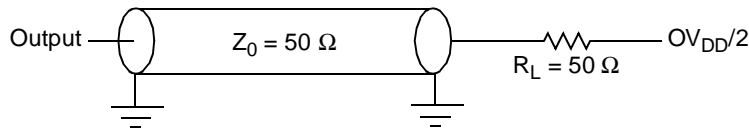

Figure 29. AC Test Load for the JTAG Interface
1. All outputs are measured from the midpoint voltage of the falling/rising edge of t_{TCLK} to the midpoint of the signal in question. The output timings are measured at the pins. All output timings assume a purely resistive 50-Ω load (see Figure 29). Time-of-flight delays must be added for trace lengths, vias, and connectors in the system.
2. The symbols used for timing specifications follow the pattern of $t_{(first\ two\ letters\ of\ functional\ block)(signal)(state)(reference)(state)}$ for inputs and $t_{(first\ two\ letters\ of\ functional\ block)(reference)(state)(signal)(state)}$ for outputs. For example, $t_{JTDV\overline{K}H}$ symbolizes JTAG device timing (JT) with respect to the time data input signals (D) reaching the valid state (V) relative to the t_{JTG} clock reference (K) going to the high (H) state or setup time. Also, $t_{JTD\overline{X}KH}$ symbolizes JTAG timing (JT) with respect to the time data input signals (D) went invalid (X) relative to the t_{JTG} clock reference (K) going to the high (H) state. Note that, in general, the clock reference symbol representation is based on three letters representing the clock of a particular functional. For rise and fall times, the latter convention is used with the appropriate letter: R (rise) or F (fall).
Figure 29 provides the AC test load for TDO and the boundary-scan outputs.
Figure 29 provides the AC test load for the I²C.